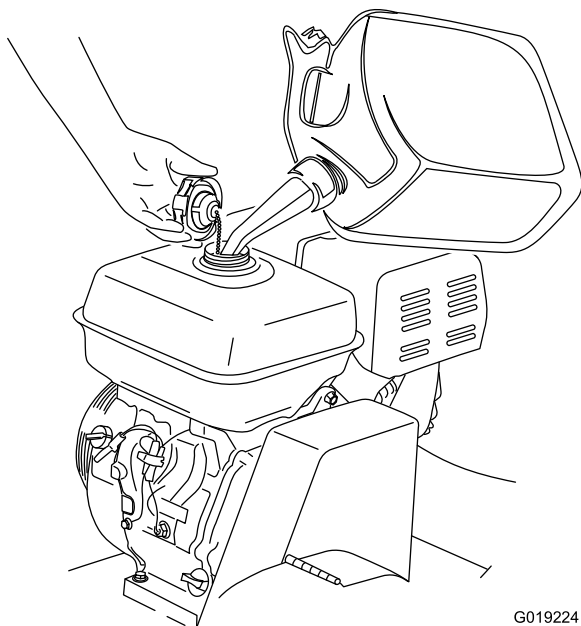

Figure 23
2. Clean around the fuel tank cap and remove it (Figure 23).